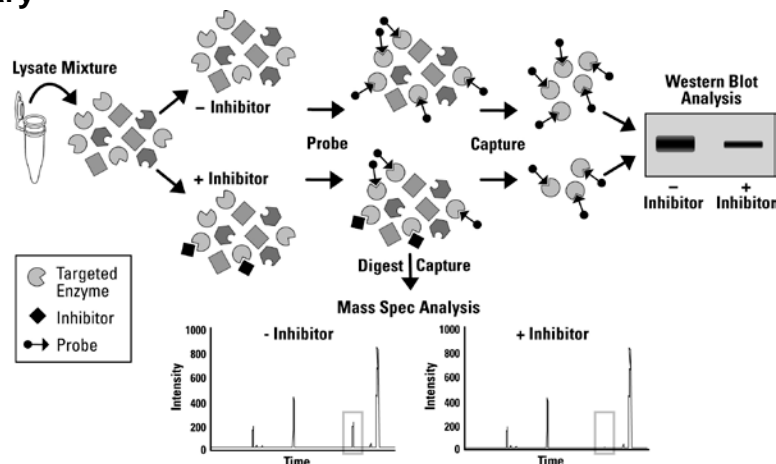

Figure 1. Western blot and mass spectrometry workflows enable targeted capture and analysis of enzymes using the active-site probes.
Assessment of active-site labeling can be accomplished by either Western blot or mass spectrometry (MS) (Figure 1). For the Western blot workflow, desthiobiotin-labeled proteins are enriched for SDS-PAGE analysis and subsequent detection with specific antibodies. For the MS workflow, desthiobiotin-labeled proteins are reduced, alkylated and enzymatically digested to peptides. Only the desthiobiotin-labeled, active-site peptides are enriched for analysis by LC-MS/MS. Both workflows are effective for determining inhibitor target binding, but only the MS workflow can identify global inhibitor targets and off-targets.^{3,4}